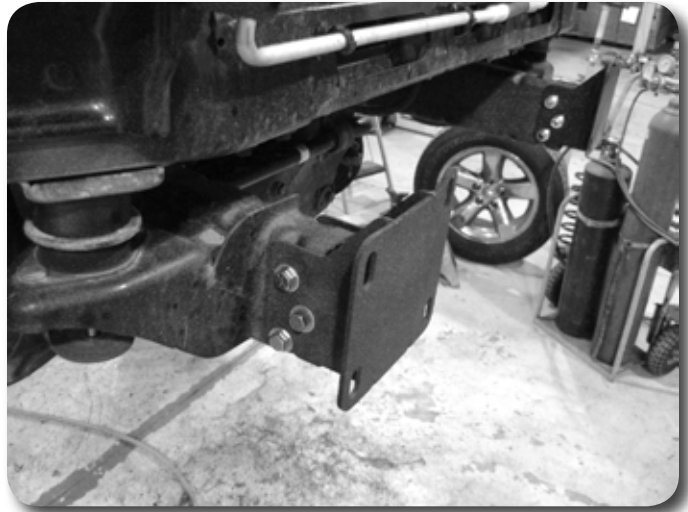

Figure 8
26. When all the holes are drilled, reinstall the brackets on the frame and loosely fasten through the top and bottom holes with $\frac{1}{2}$ " x 4" bolts, nuts and $\frac{1}{2}$ " SAE washers. Figure 8